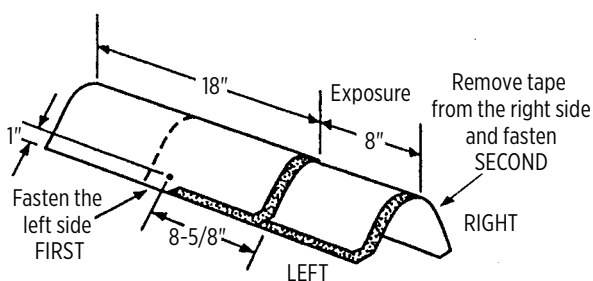

Figure 17-19: Installation of Shingle Ridge shingles on hips and ridges.
7. Fasten each cap with two fasteners (Figure 17-19). The fasteners must be $1\frac{3}{4}$ " long, or longer, so they penetrate either $\frac{3}{4}$ " into the deck or completely through the deck, exposing at least $\frac{1}{8}$ " of the tip of the nail. Expose 8" of the Accessory along the ridge or hip line and cover all fasteners.